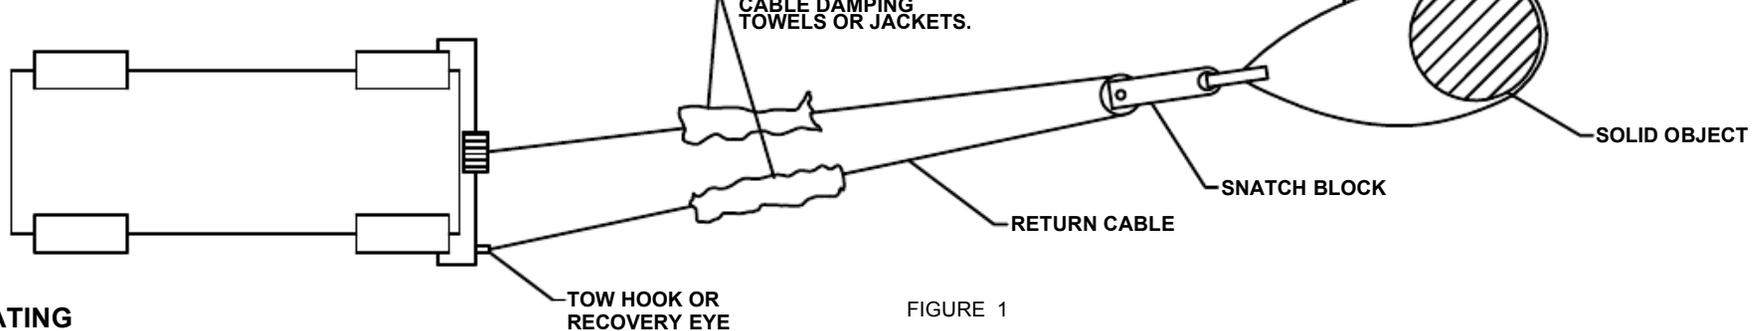

FIGURE 1
3) Attach return cable to tow hook or recovery eye when using a snatch block (See figure 1).
- 3) Attach return cable to tow hook or recovery eye when using a snatch block (See figure 1).